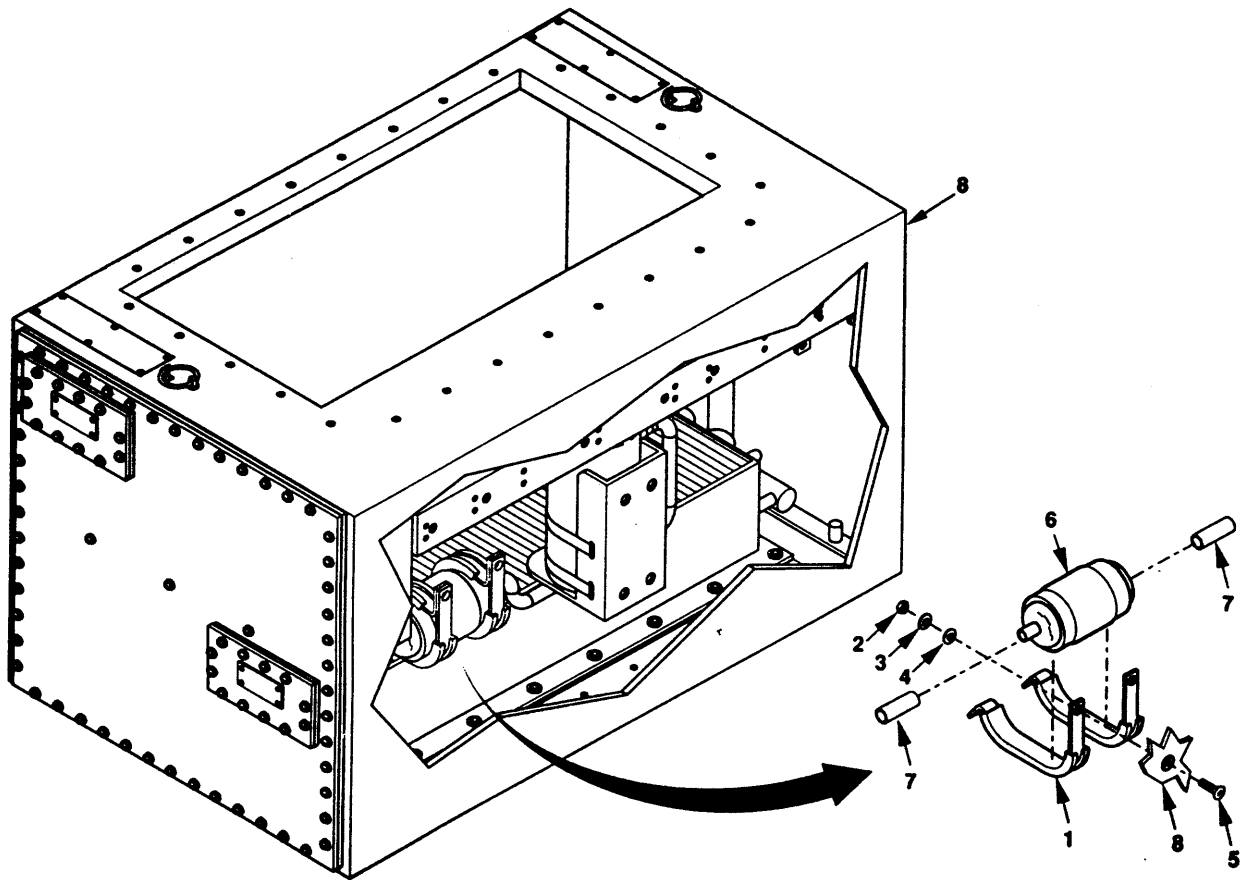

Figure 5-9. Dehydrator Replacement.
- (1) Inspect clamps (Figure 5-9, 1) and all mounting hardware for damage.
- (2) Replace all damaged or defective components.